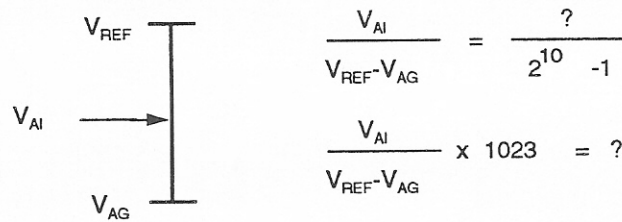

Figure 4. A/D Conversion Ratio
The 5051 will take the voltage it samples off its analog input pin and convert it to a number equivalent to the ratio of the input voltage and the difference between the  $V_{REF}$  and  $V_{AG}$ . This number is the converter's digital representation of the sampled voltage input. Figure 4 illustrates this ratio and describes an equation that predicts the ADC's conversion value. For example, if  $V_{AI} = 2.34$  volts, then the 10-bit representation of that voltage is 479 or \$1DF.
- 2) If  $V_{REF}-V_{AG}$  is exactly 5.00 volts, the A/D should convert to a reading of 450 or \$1C2. (See Figure 4 A/D Conversion Ratio.)